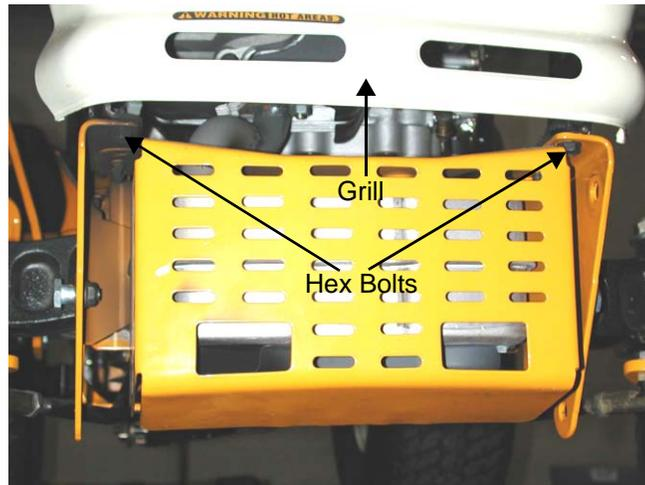

Figure 37.6
37.6. Remove the hex bolts securing the front grille assembly to the front frame assembly using a 1/2" socket and extension. See Figure 37.6.